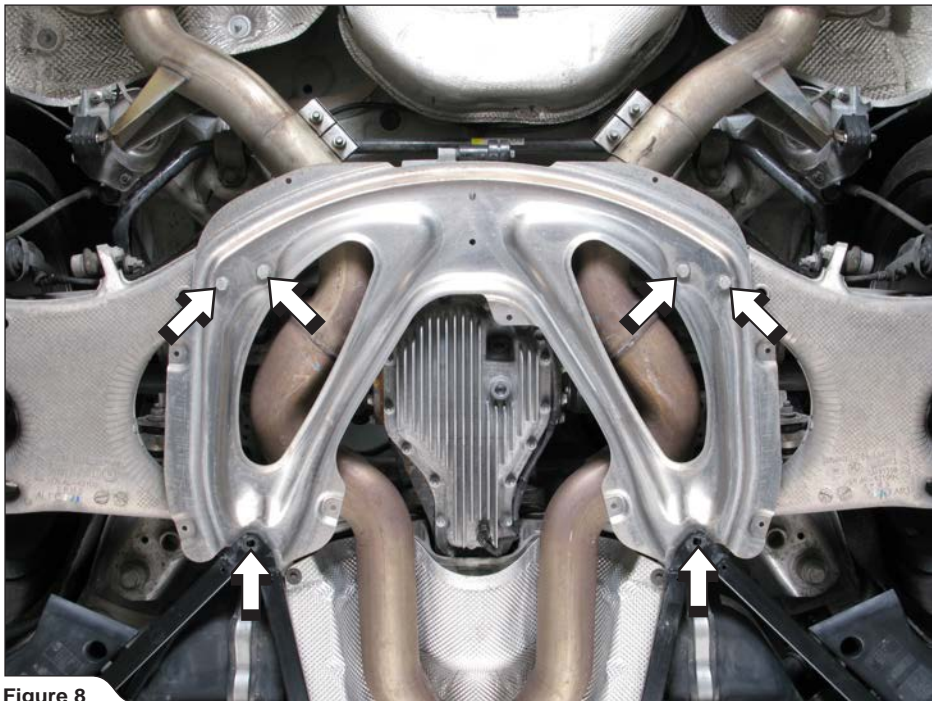

Figure 8
6. Unscrew all marked bolts and carefully remove the differential aluminium protection off the vehicle (Figure 8).